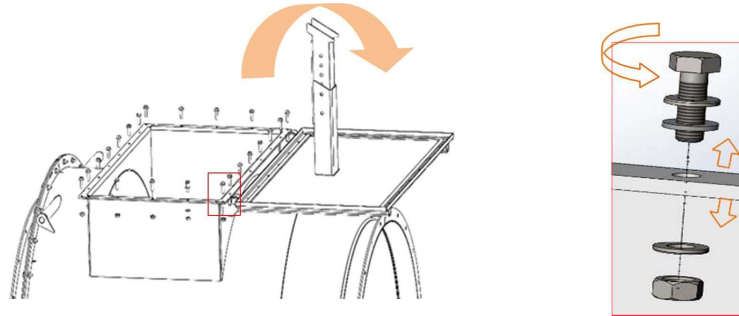

Figure 12 : Opening inspection panel
Step 1: Open the inspection panel as shown in Figure 12,